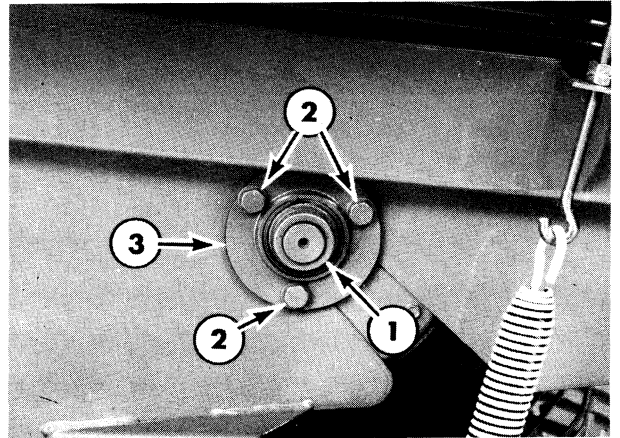

Figure 6-22
6. Torque the bolts at 2, Figure 6-22, to 38 ft. lbs. (52 N·m).
Tighten lock collar, 1, Figure 6-22.